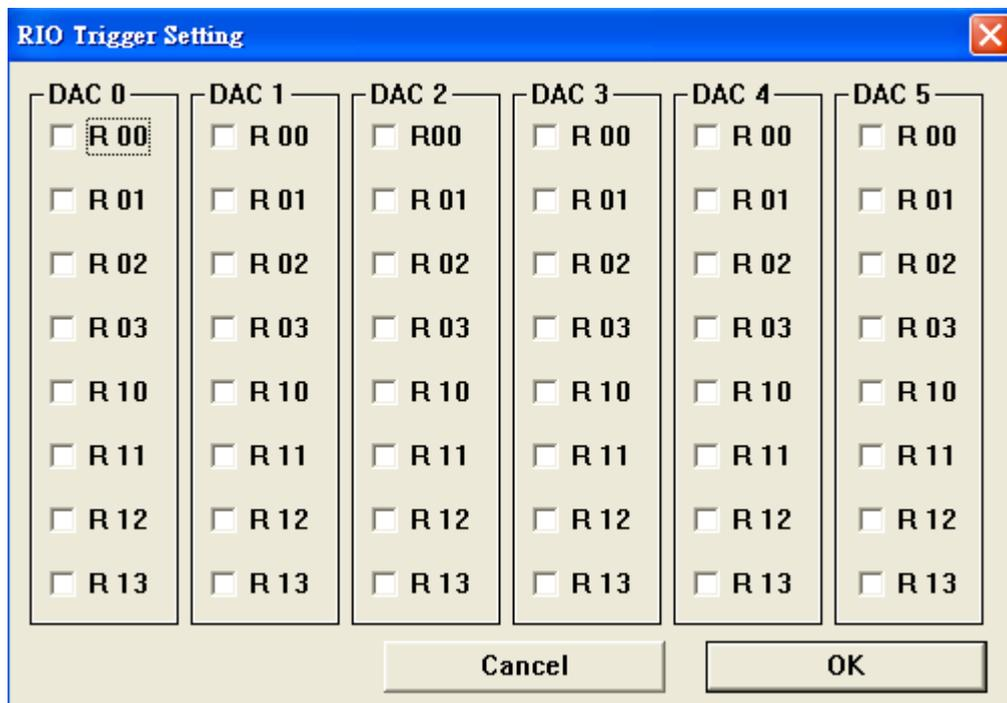

Figure 4-9.7
(6) Set RIO as DAC trigger source (as shown in Figure 4-9.7)